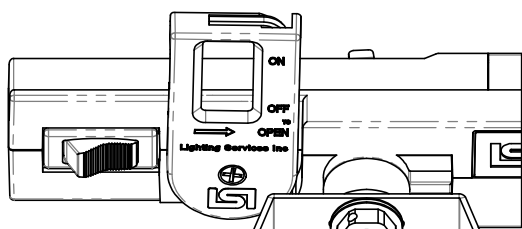

FIGURE 1. FITTING WITH SWITCH OFF AND POWER HANDLE OPEN
1. FLIP THE FITTING SWITCH OFF AND OPEN THE POWER HANDLE (**FIG. 1**).